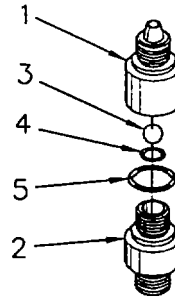

Figure 3-6. Discharge Valve
- (1) Unscrew tube adapter (1, Figure 3-6) from valve body (2).
- (2) Remove ball poppet (3) from valve body (2).
- (3) Remove preformed packings (4 and 5) from valve body (2).
- (1) Install preformed packings (4 and 5, Figure 3-6) into valve body (2).
- (2) Install ball poppet (3) into valve body (2).